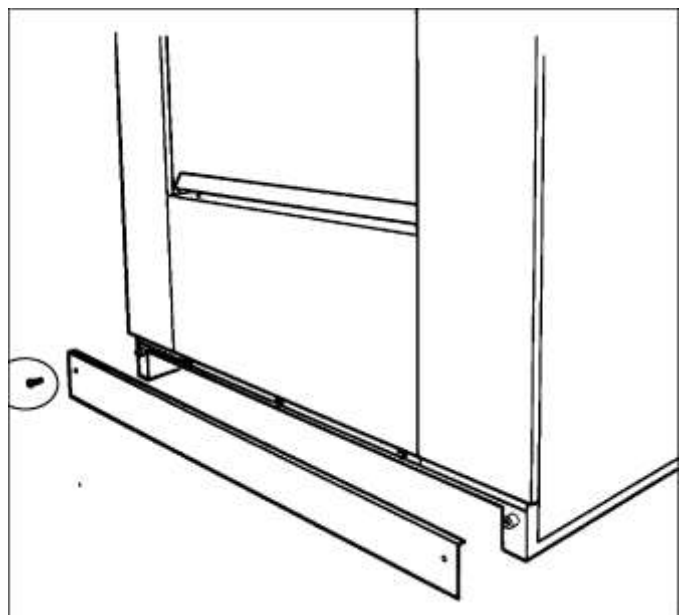

Fig. 2.9
- Assemble the toe plate (Fig. 2.9). This piece is shipped disassembled from the machine.